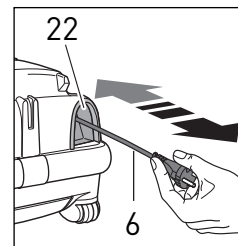
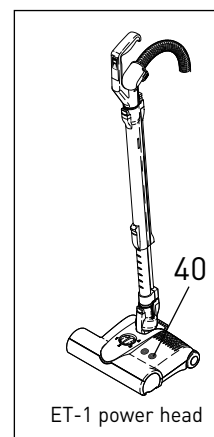
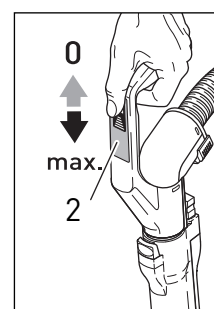
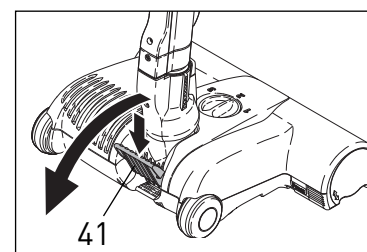

Figure 1
Figure 8
Figure 9
Figure 10
## Starting The Machine - Figures 1, 2 & 3
## Starting The Machine and Suction Control - Figures 1, 2, 8, 9 & 10
Before turning on your canister, make sure that the vacuum handle is in its upright locked position (figure 8).
1. With the canister main power control knob (9) in the OFF position, and the power control slider on the handle (#2, figure 9) in the OFF position, pull the power cord out from the base of the canister (figure 1). The power cord should be unwound from the cable reel at least two thirds of its length. **Note:** do not over-extend the cord.
4. Slide the Power Control Slider (#2, figure 9) toward the MAX position. It will move freely between 0 suction and MAX suction. Set the slider to the suction desired. Release the foot pedal (#41, figure 10) on the ET-1 power head.
## Operating The Machine - Figure 10
When the power head is on with the handle in the upright locked position (see figure 8 above), the brush roller will not spin.
To release the ET-1 power head from the upright locked position, press down on the foot pedal, (#41, figure 10) lower the handle into the normal operating position and push the button on the top of the power head (#40, figure 8) to engage the brush roller. The green light on the power head will illuminate.